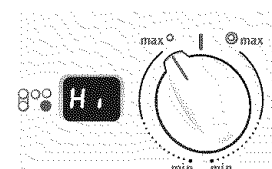
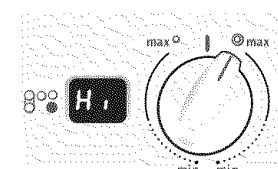
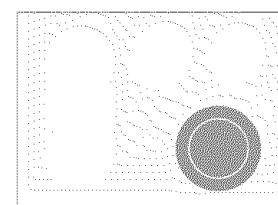

Figure 5
Figure 6
Figure 8
The cooktop is equipped with a dual radiant surface element located at the right front (Fig. 8) position. The size of graduations on control panel indicate which coil of the dual radiant element will heat. The **small** graduations indicates that only the inner coil will heat (Fig. 5 & 7). The **large** graduations indicates that both inner and outer coils will heat (Fig. 6 & 8). You may switch from either coil setting at any time during cooking.
2. Push in and turn the control knob counterclockwise (Fig. 5) for smaller cookware and clockwise (Fig. 6) for larger cookware.